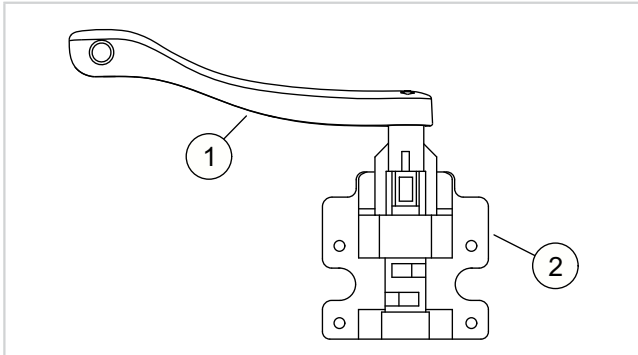

Fig. 104 (29958)
- See Figure 104. Install the cam lever (1) into the bracket (2). Make sure that you put the handle at the correct position.